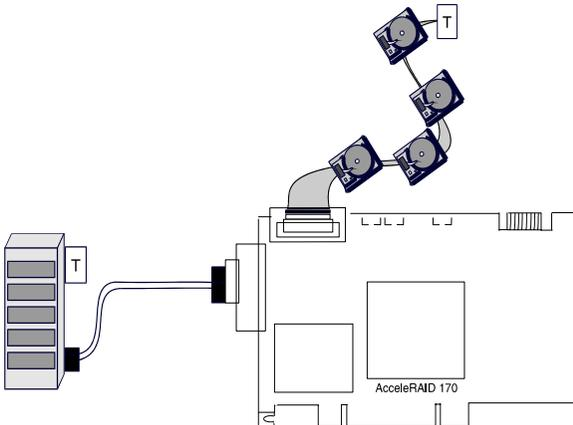

Figure 2-8. Connecting Disk Drives to the AcceleRAID 170
4. Connect the SCSI cable from the internal disk drive to the SCSI connector on the AcceleRAID 170 controller as shown in Figure 2-8. (The controller is already connected to the system board.)